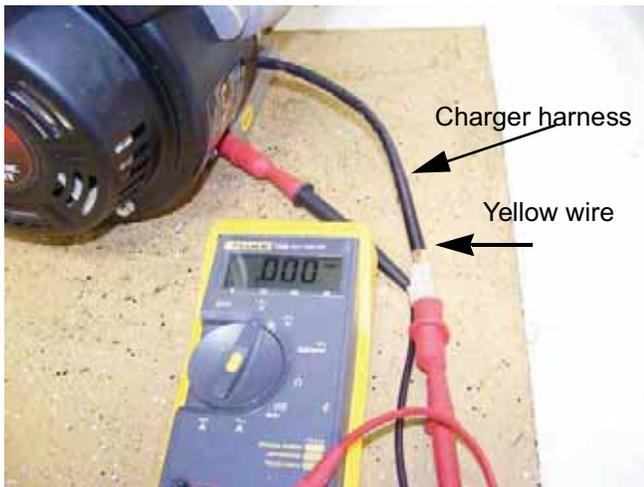

Figure 6.26
3. Connect the red (+) lead of the multimeter to the yellow wire in the charger harness. See Figure 6.26.